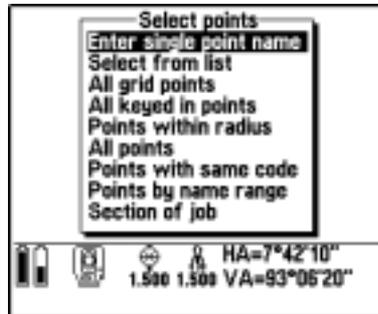

Figure 19.30 Select points screen – selection methods
4. Press to transfer points in the Trimble Survey Controller software database to the *Stakeout/Points* list. The *Select points* screen appears, as shown in Figure 19.30.